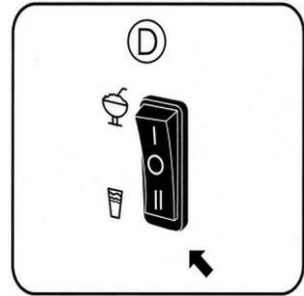

Fig. 5
However, the left tank is for cold drinks. To prepare a cold drink in this tank, set the switch (D) to the "Cooling" position, as shown in Fig. 5.